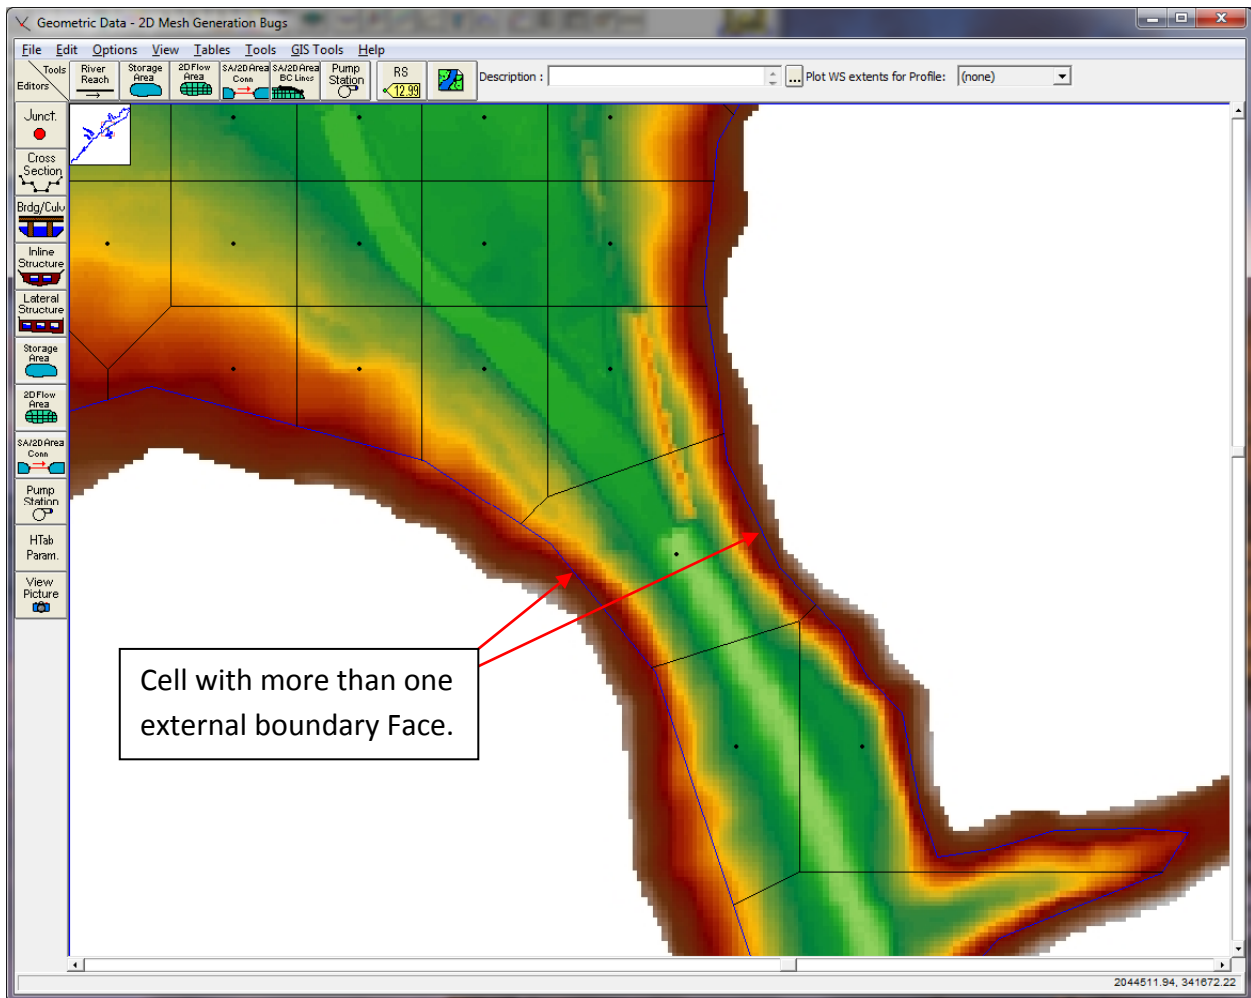

Figure 22. Example of a Cell with two Outer Boundary Faces.
- **Cell has more than One Outer Boundary Face:** If you have an area that the 2D Polygon necks down, the automatic mesh generator may create a cell that has two outer boundary faces (Figure 22). Currently this is not working computationally (we will fix this and get it to work in a future version). You must break up that cell into multiple cells, such that each cell has only one outer boundary face. A boundary face can be made up of many points/sides, but it must be continuous.